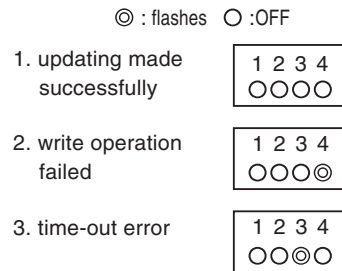

Figure 3-21
4) Press the push switch (PSW1) to store the new setting, upon which the LEDs will go OFF. If the LEDs start to flash or remain ON, enter the setting once again. (See Figure 3-21.)